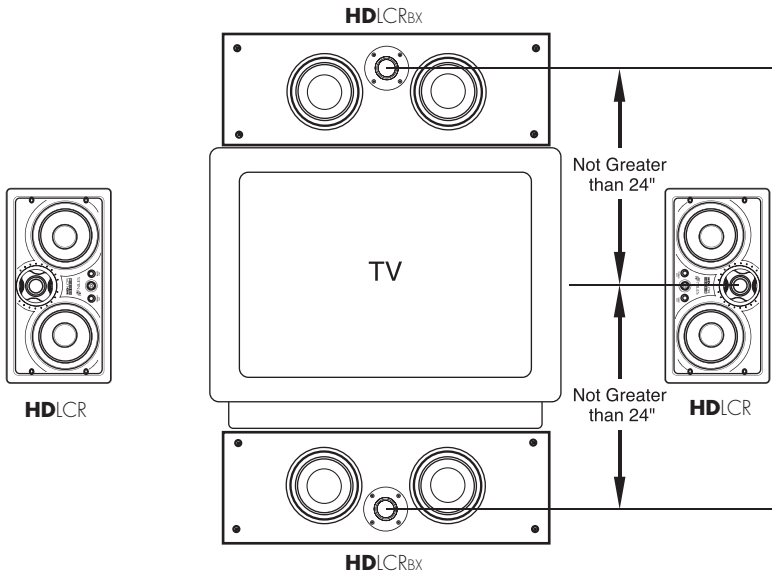

Figure 2. If the HDLCRBx is placed above a TV, orient the loudspeaker with the tweeter up. If it is placed below a TV, orient the HDLCRBx with the tweeter down.
As for placement height, place front left and right loudspeakers vertically on either side of the picture source, so that their tweeters are not more than 24 inches above or below the center-channel loudspeaker's tweeter (see **Figure 2** on page 6). For best response, orient the loudspeakers so the tweeters face out.
- *In a typical installation, place the HDLCR_{BX} horizontally, directly above the television or projection screen. Try to insure that the loudspeaker is not placed too high relative to the left and right loudspeakers, as shown in **Figure 2** (on the next page).*